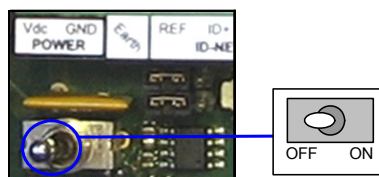

Figure 4 - Power Switch ON/OFF Positions
The power switch (see Figure 4) switches the power supply ON or OFF for both the CBX800 and the connected reading device.
- 2) Verify that the CBX800 power switch is off (see Figure 4).